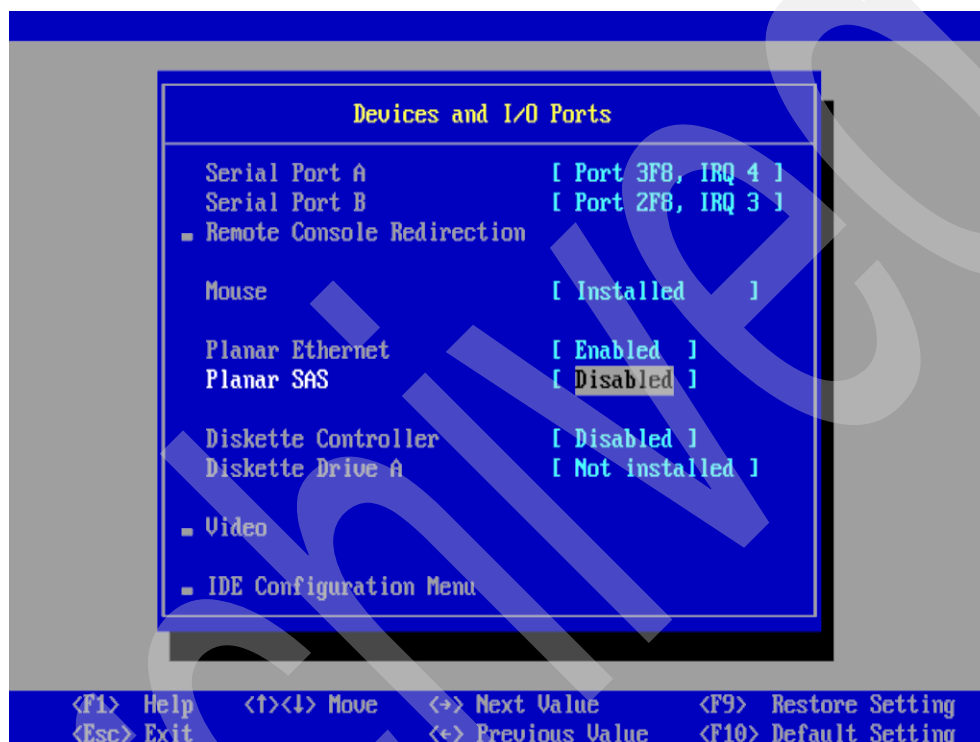

Figure 28-2 Disabling SAS controller
3. Select **Planar SAS** from the next menu and disable the internal SAS controller, as shown in Figure 28-2.